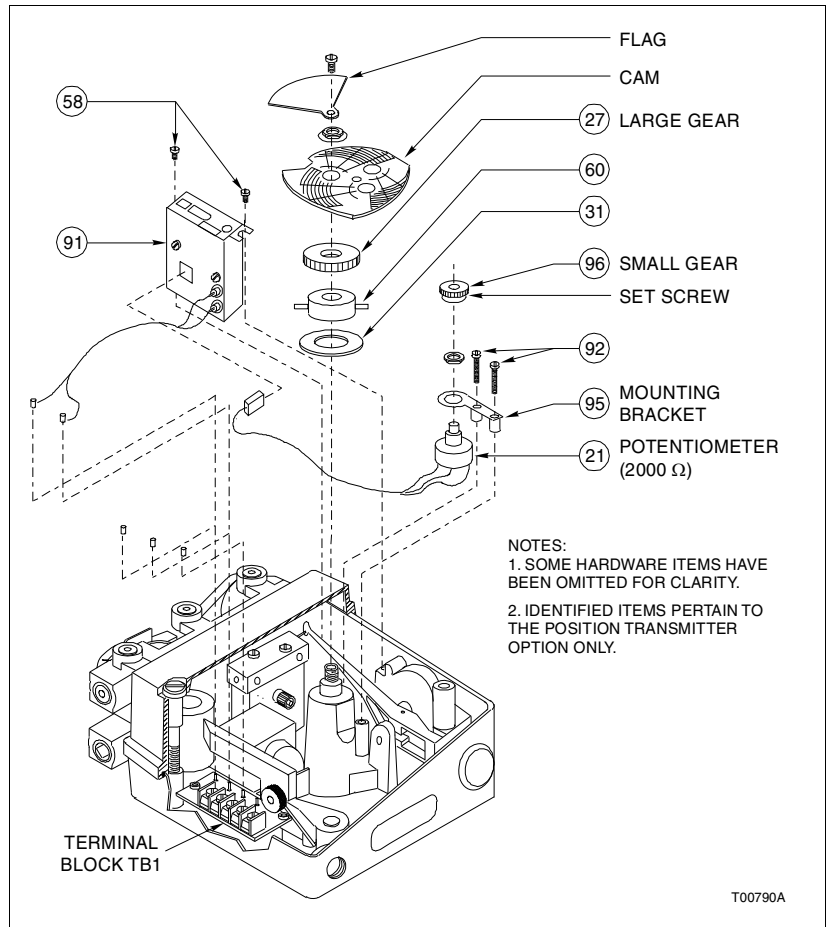

Figure A-5. 4 to 20-mA Position Transmitter (Exploded View)
a. Remove the cam, by removing the screw, flag, nut and washer (Fig. A-5 and Table A-2).
b. Loosen the set screw on the hub of the small gear using a  $\frac{1}{16}$ -in. Allen wrench (Fig. A-5 and Table A-2).
**NOTE:** If the mesh between the large and small gears is not tight, adjust the position of the potentiometer mounting bracket (Fig. A-5 and Table A-2) so that backlash is eliminated.
e. Remove the ohmmeter from TB1-1 and TB1-2. Install the cam, screw, flag, nut and washer (Fig. A-5 and Table A-2).